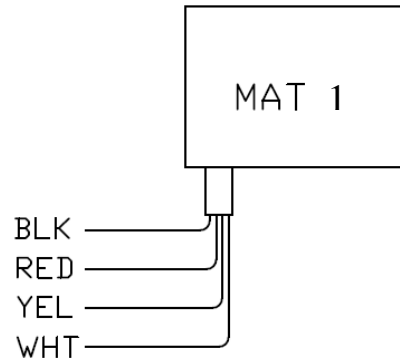
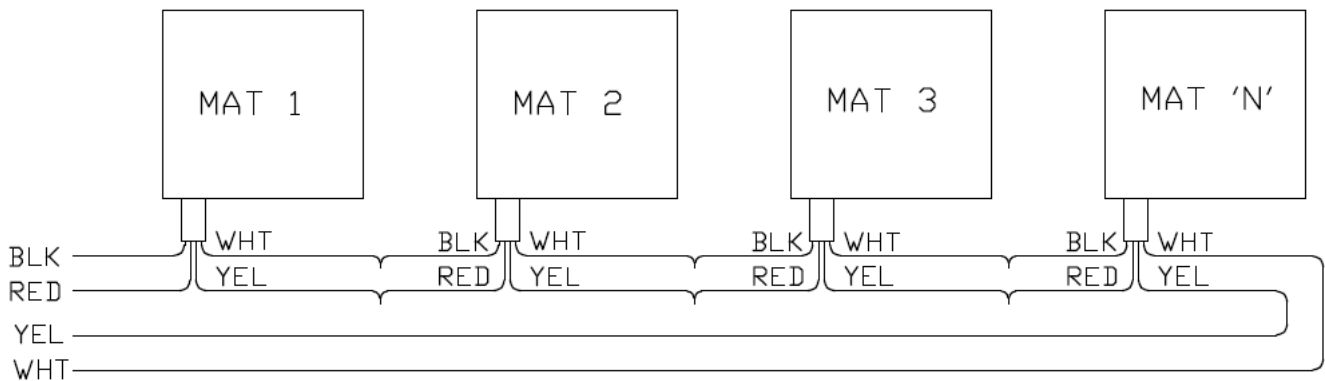

Figure 8A: Single Mat - Single 4-Conductor Lead
Figure 8B: Multiple Standard Standalone Mats – Single 4-Conductor Leads
ControlMat Safety Mats are usually supplied with a single 4-conductor lead. This configuration is suitable for both single-mat installations as shown in **Figure 8A**, and multi-mat installations as shown in **Figure 8B**.
Step 5 – In an application where multiple mats are used to protect an area, they must be connected together. Refer to **Figures 8B thru 8D**. If necessary, cut the cables to length to facilitate the required interconnections. Always leave some slack in the cables so that a mat can be disconnected and reconnected at a later date, if service or maintenance is required.